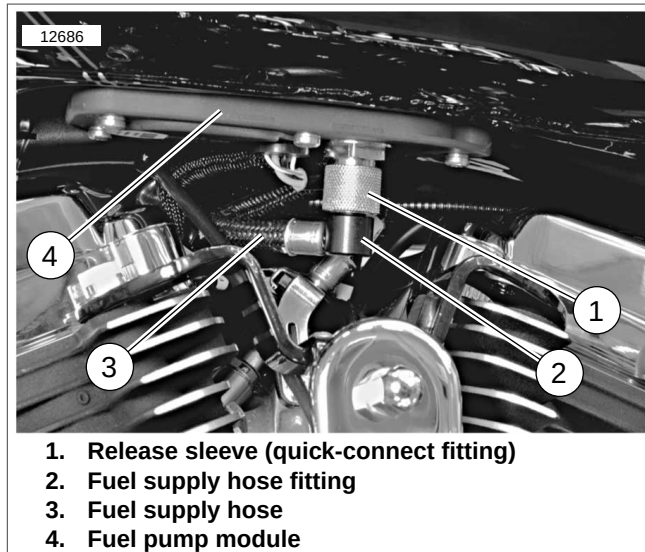

Figure 4-6. Fuel Tank Quick-Connect Fitting
2. See Figure 4-6. Push up on release sleeve (1) on fuel pump quick-connect fitting and pull down on fuel supply hose fitting (2) to disconnect fuel supply hose (3) from fuel pump module (4). Immediately clean up any fuel spills.
1. See Figure 4-6. Push up on release sleeve (1) and push fuel hose fitting (2) into fuel pump module fuel pump quick-connect fitting. Pull down on release sleeve to lock quick-connect fitting. Tug on fuel hose fitting to make sure it is securely locked in place.